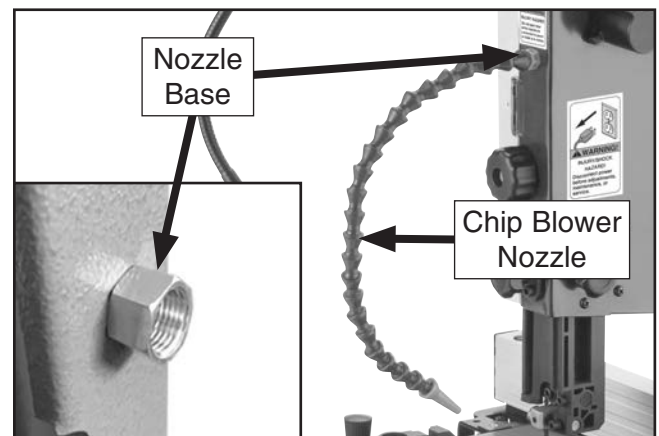

Figure 17. Chip blower nozzle threaded into base.
12. Thread chip blower nozzle into nozzle base (see **Figure 17**).